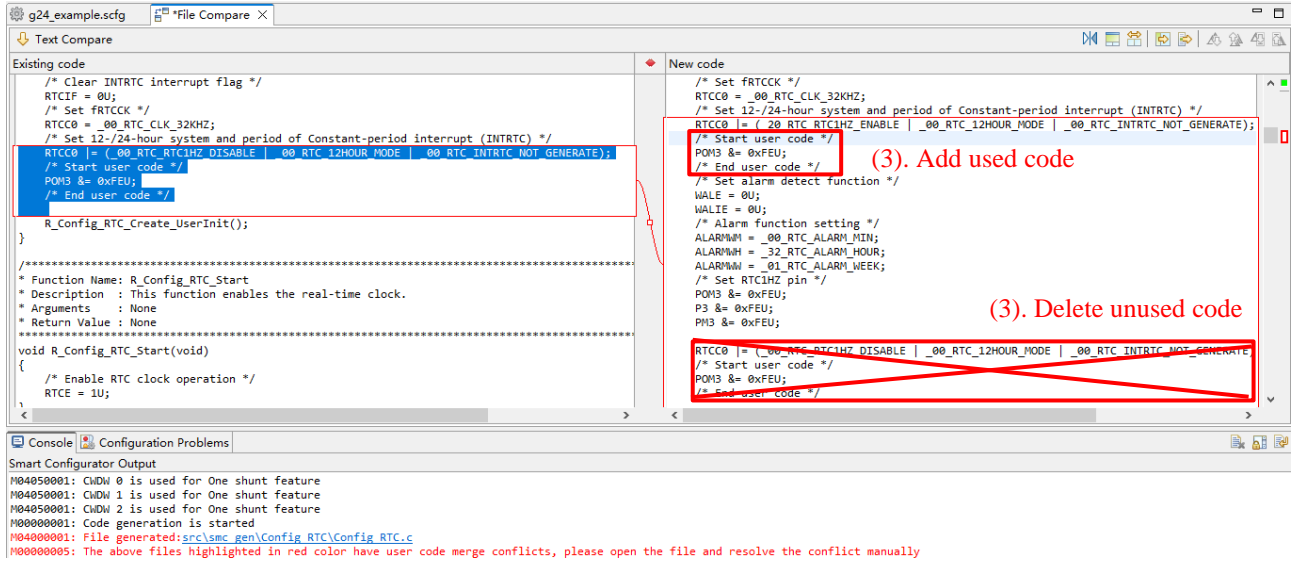

Figure 10-5 Code after Applying “Copy Current Change from Left to Right”
- (3) Delete the codes that user does not want to use (Figure 10-5 Code after Applying “Copy Current Change from Left to Right”).